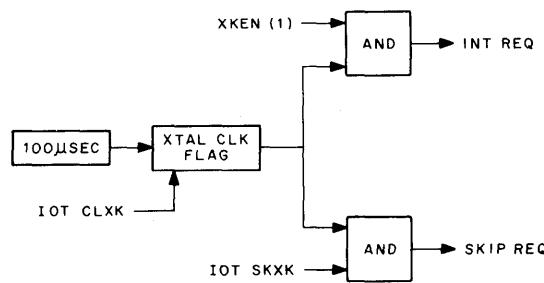

Figure 3-3 Crystal Clock Logic
The crystal clock serves as a timer and provides a pulse every 100 μ s to set the XTAL CLK flag (flip-flop) (Figure 3-3). The state of the crystal clock flag is used by the IOT SKXK (skip on crystal clock flag) to cause a skip request if the flag is set. IOT SKXK is caused by BMB bit 9(0) and the combination of IO2 decoded in the decoder (MB 6, 7, 8 as 010) and the IOP 1 pulse from the computer. To cause an interrupt request, the 1 state of the flag is ANDed with XKEN(1) from the Enable Register. XKEN is set by IOT OTEN (AC bit 3 (1)).